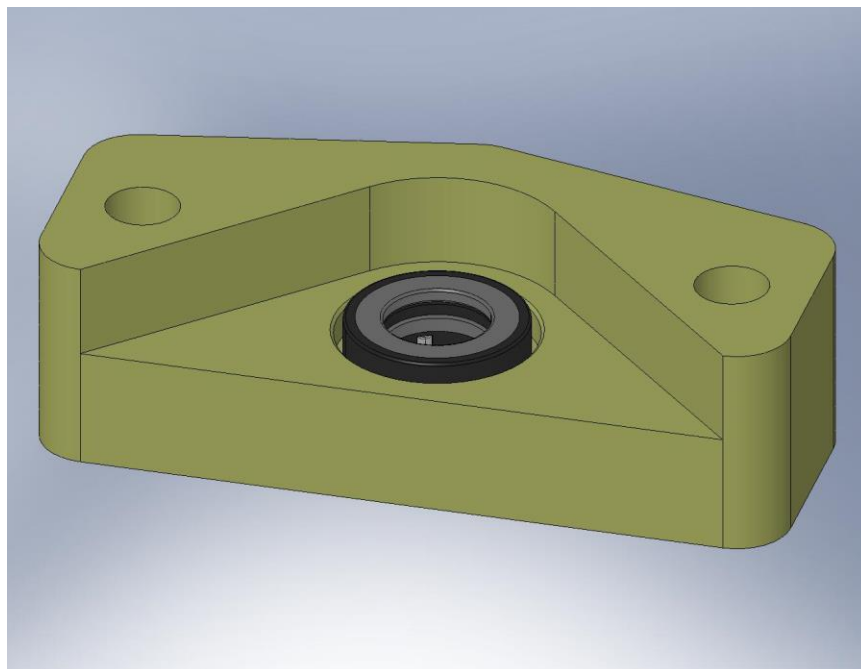

Figure 4.58. The parts should look like this, after the press.
- Press combination bearing (INA model NKX25-Z) into **Spring Pull-Down Bar** (D071306), as shown in Figure 4.57 and Figure 4.58. **Note:** *the bearing must be cleaned to LIGO standards, Class B, before it is installed in this tool. The cleaning process removes all lubrication (requiring temporary disassembly of the bearing) from bearing surfaces. Therefore, the bearing wears quickly when turned under load, and should be replaced when motion begins to feel rough.*